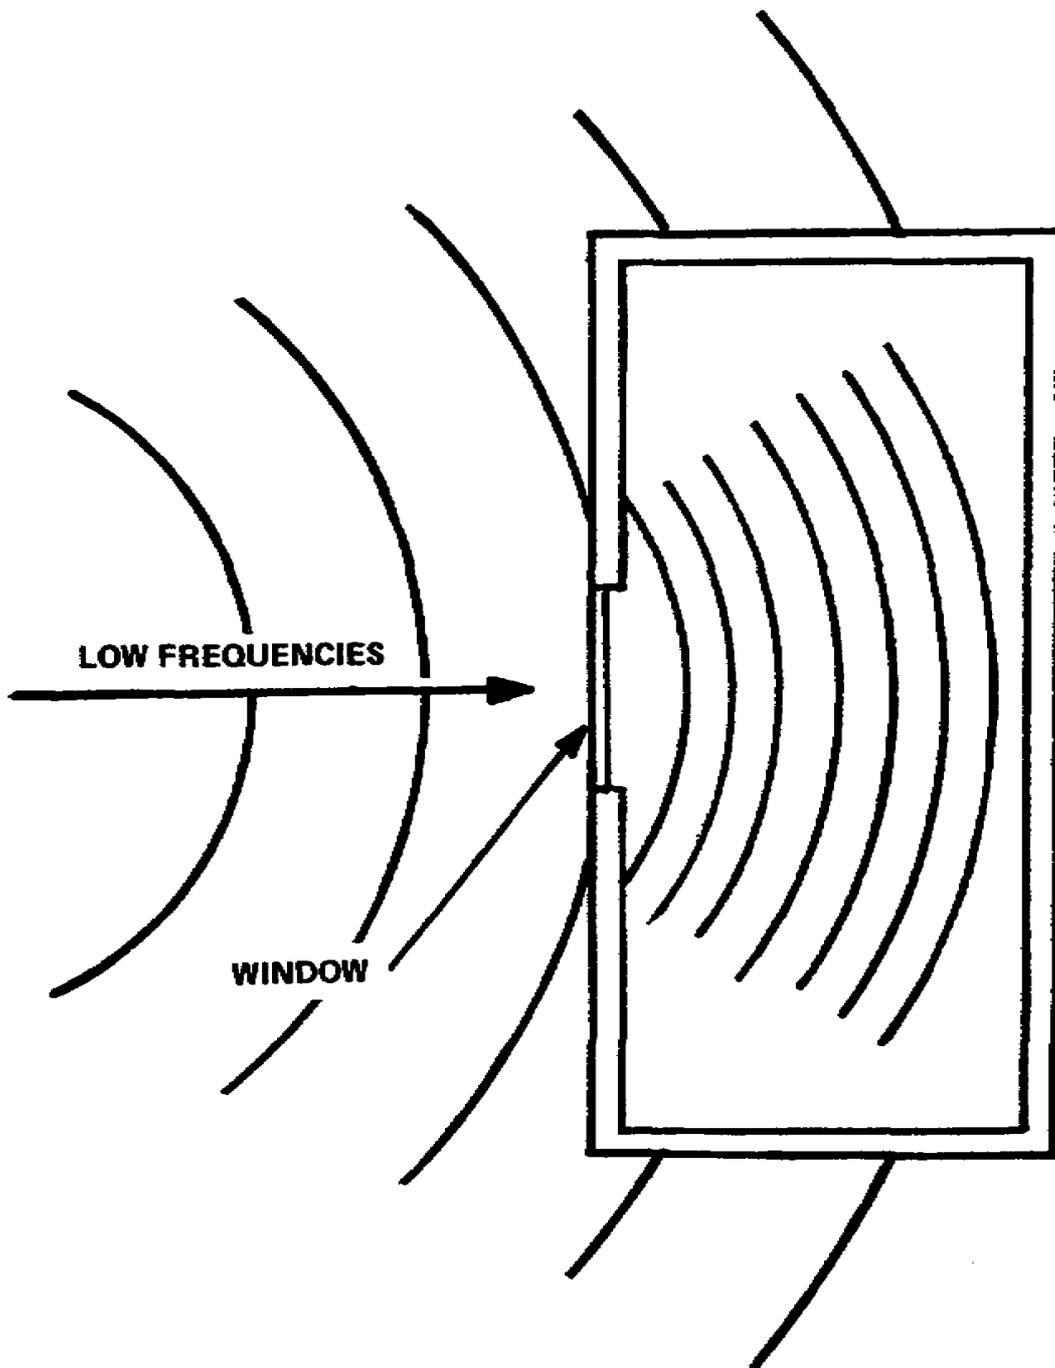

Figure 1-16. Diffraction of lower frequencies
(1) As the sound passes from the solid back to the air, it changes its speed and direction again.
(2) In refraction, the angle of change is always perpendicular to its original path.
d. Diffraction. When sound encounters an object in its normal path of travel, it bends around that object and continues back to its normal path, (fig 1-16). Example: You are placed in a room with an open window and in the distance you can hear the sounds of a marching band. The sounds most readily heard are those of the bass drum and other instruments which produce the lower frequencies of the audio spectrum. The lower frequencies, due to their longer wavelengths, diffract more readily than the higher frequencies. As sound from instruments that produce the lower frequencies enter through the window, this opening or aperture causes these low frequencies to scatter in all directions.